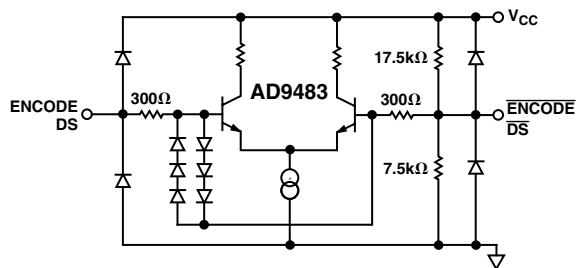

Figure 5. Equivalent Encode and Data Select Input Circuit
ENCODE and Data Select (DS) can be driven differentially or single-ended. For single-ended operation, the complement inputs ($\overline{\text{ENCODE}}$, $\overline{DS}$) are internally biased to $V_{DD}/3$ (~1.5 V) by a high impedance on-chip resistor divider (Figure 5), but they may be externally driven to establish an alternate threshold if desired. A 0.1 μF decoupling capacitor to ground is sufficient to maintain a threshold appropriate for TTL or CMOS logic.
Note the 6-diode clock input protection circuitry in Figure 5. This limits the differential input voltage to ± 2.1 V. When the diodes turn on, current is limited by the 300 Ω series resistor. Exceeding 2.1 V across the differential inputs will have no impact on the performance of the converter, but be aware of the clock signal distortion that may be produced by the nonlinear impedance at the converter.